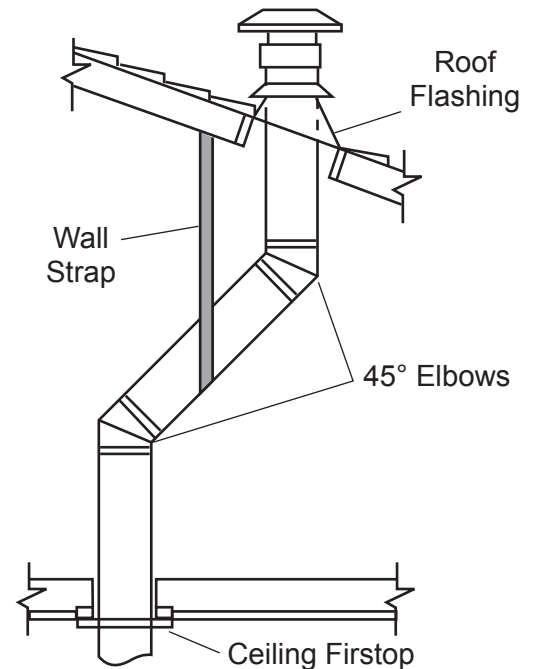

Figure 35 - Offset with Wall Strap and 45° Elbows
1. Determine the route your vertical venting will take. If ceiling joist, roof rafters or other framing will obstruct the venting system, consider an offset. See *Figure 35* to avoid cutting load bearing members.